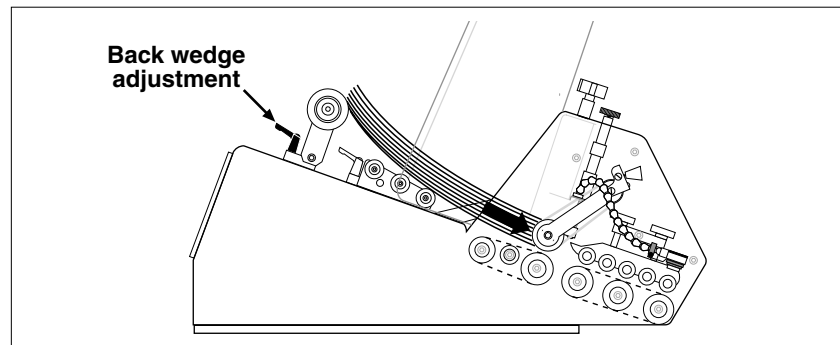

Figure 3-10. Positioning Product Prior to Loosening Back Wedge
2. Place the preshingled material in the hopper so the edges rest against the curvature of the gate assembly (Figure 3-10).
3. Turn the back wedge wing-nut adjustment counterclockwise to loosen the wedge (Figure 3-10).